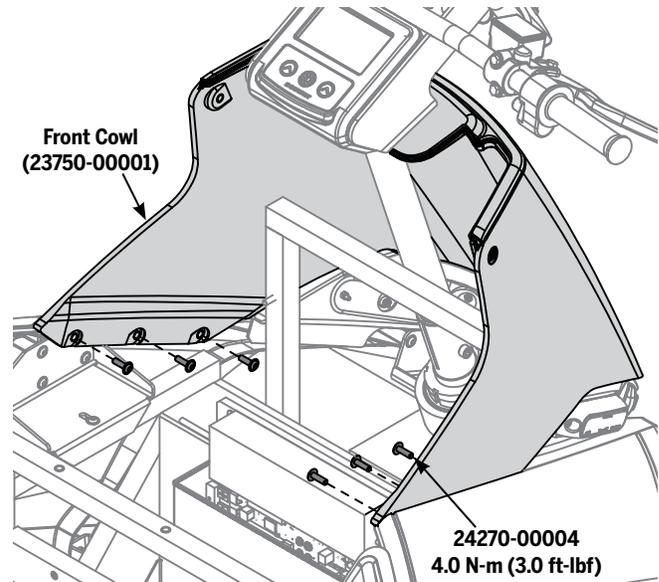

Figure 22: Fasten the Front Cowl
3. Using a 4 mm hex wrench, remove the six fasteners as shown in **Figure 22**.
3. Using a 4 mm hex wrench, install the six fasteners as shown in **Figure 22**.